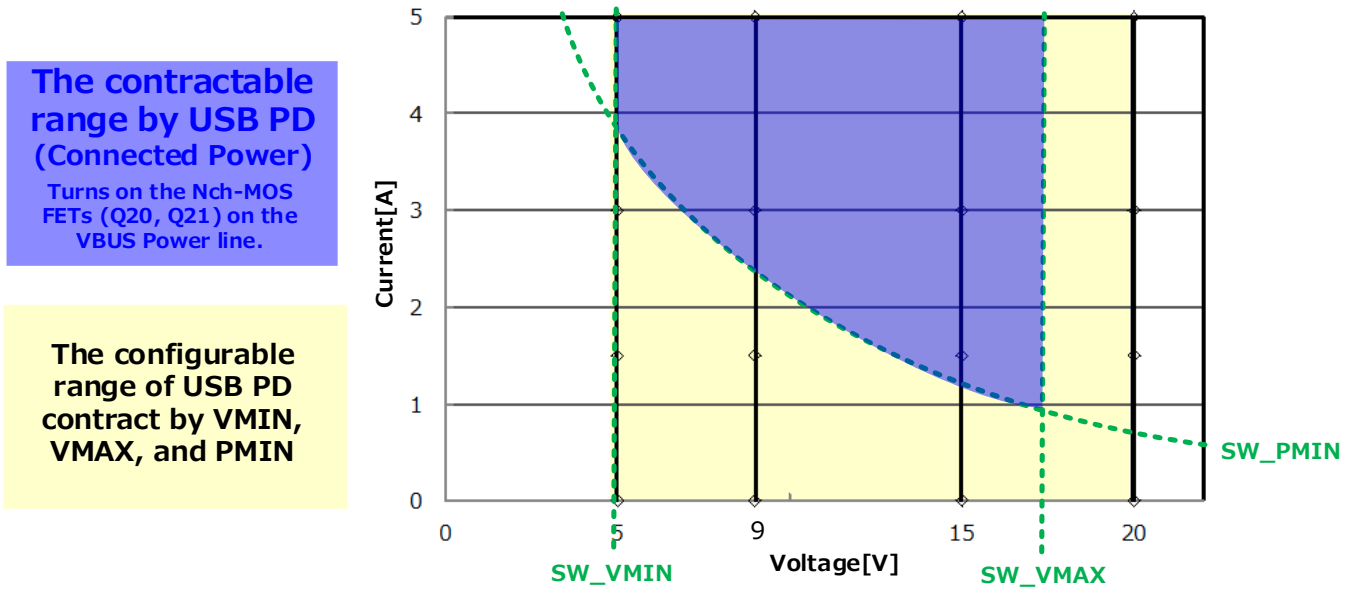

Figure 9. USB PD Contractable Range
3. Set SW\_VMAX, SW\_VMIN and SW\_PMIN according to required PD contract. Please refer to Figure 9 for further information.
This EVK can set the range of USB PD contract automatically according to SW\_VMAX, SW\_VMIN, SW\_PMIN DIP switch settings. The EVK can make a contract with a PD source that has a range within the “USB PD Contractable Range” shown in Figure 9. The EVK requires a power cycle to update the range assigned by SW\_VMAX, SW\_VMIN, and SW\_PMIN. A power cycle occurs by both disconnecting from a Source device and losing power from VSRC5V. If there is no VSRC5V, only disconnecting from a Source device is required.
Figure 9 shows the specific range by SW\_VMAX, SW\_VMIN, and SW\_PMIN that allows USB PD Contract.